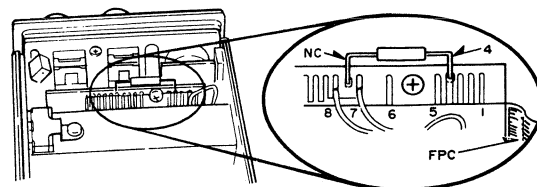

Fig. 2-3
4. As shown in the Fig. 2-3, connect terminals 4 (SWB) and NC on the small pc board with the jumper wire. Use a low wattage pencil type iron.